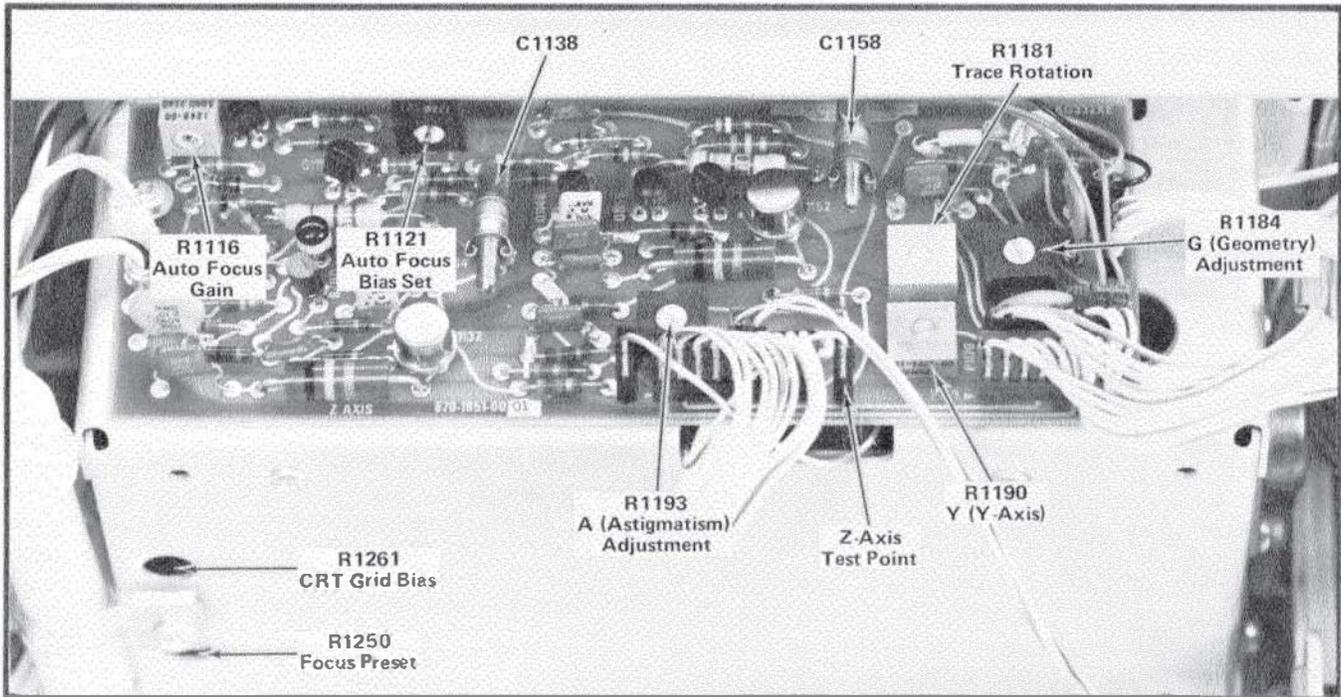

Fig. 3-2. Location of Display and Z Axis adjustments and test points.
- d. Connect a 10X probe from the test-oscilloscope to the Z-Axis test point (see Fig. 3-2) and the probe ground lead to chassis ground.
g. ADJUST—CRT Grid Bias adjustment R1261 (see Fig. 3-2) until the trace on the 7603 is just extinguished. Set INTENSITY or a viewable trace.
- ADJUST—FOCUS control and A (Astigmatism) adjustment R1193 (see Fig. 3-2) to obtain best display definition.
d. ADJUST—Trace Rotation adjustment R1181 (see Fig. 3-2) to align the trace with the center horizontal line.
d. ADJUST—Y-Axis adjustment R1190 (see Fig. 3-2) to align the trace with the center vertical line.
l. ADJUST—Geometry adjustment R1184 (see Fig. 3-2) for minimum bowing of time markers. Adjustment may have to be compromised to obtain less than 0.1 division bowing and tilt everywhere within the graticule area.